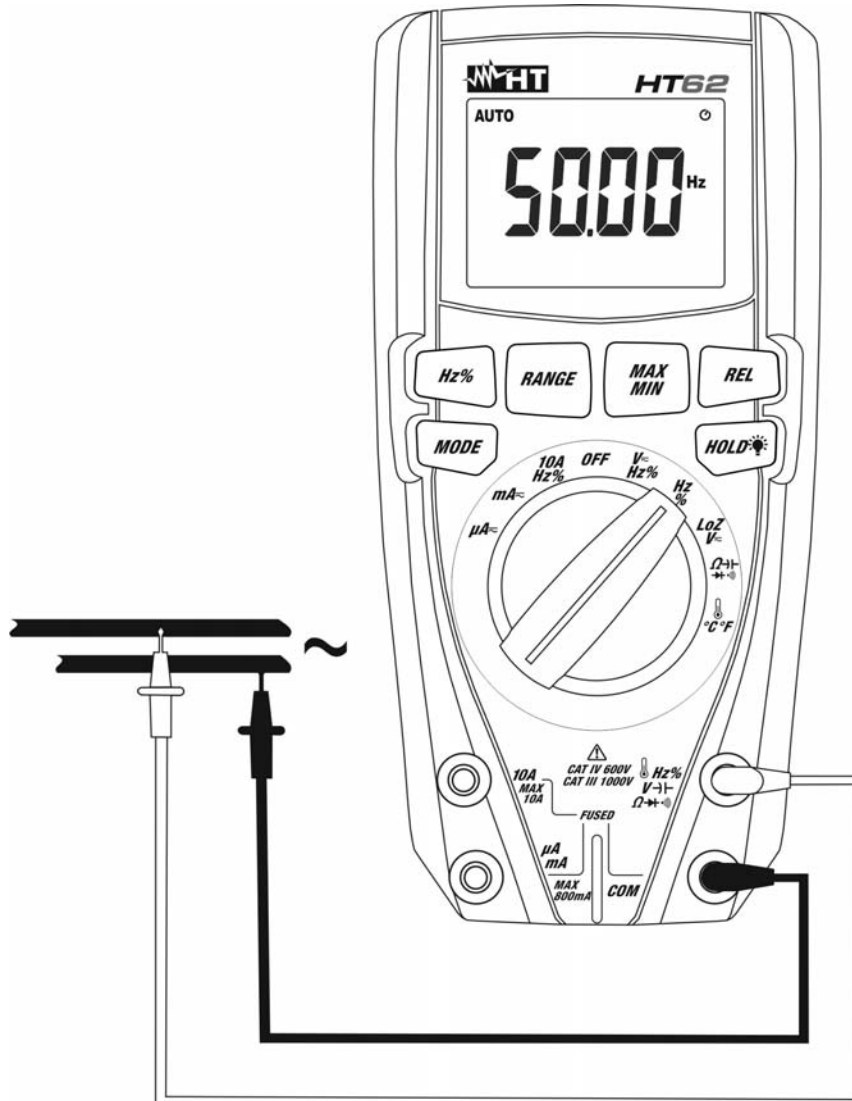

Fig. 5: Use of the instrument for frequency measurement and duty cycle test.
4. Position the red lead and the black lead respectively in the spots of the circuit to be measured (see Fig. 5). The value of frequency (Hz) or of duty cycle (%) is shown on the display. The bargraph is not active in these functions.